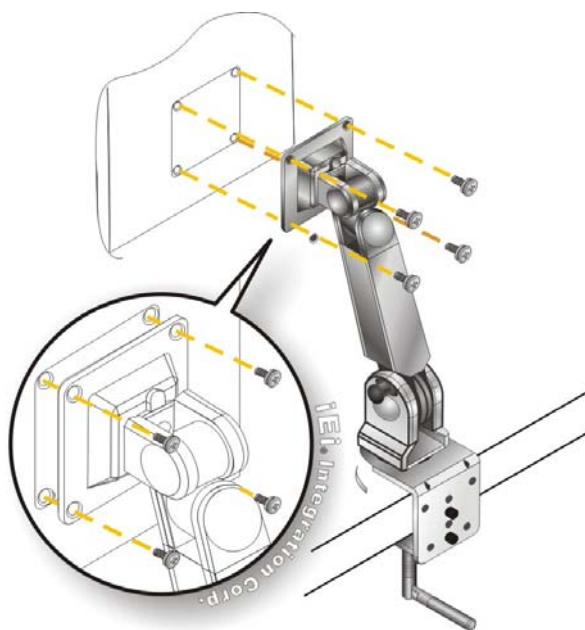

Figure 3-38: Monitor Arm Mounting
Step 2: Secure the monitor to the arm with the supplied retention screws (Figure 3-38).